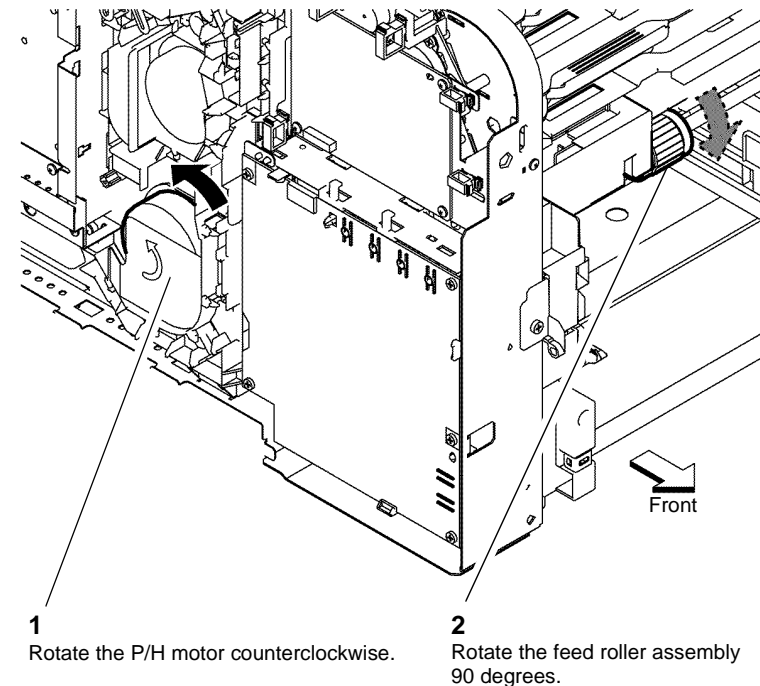

Figure 2 Feed roll rotation
5. Rotate the P/H motor by hand, Figure 2.